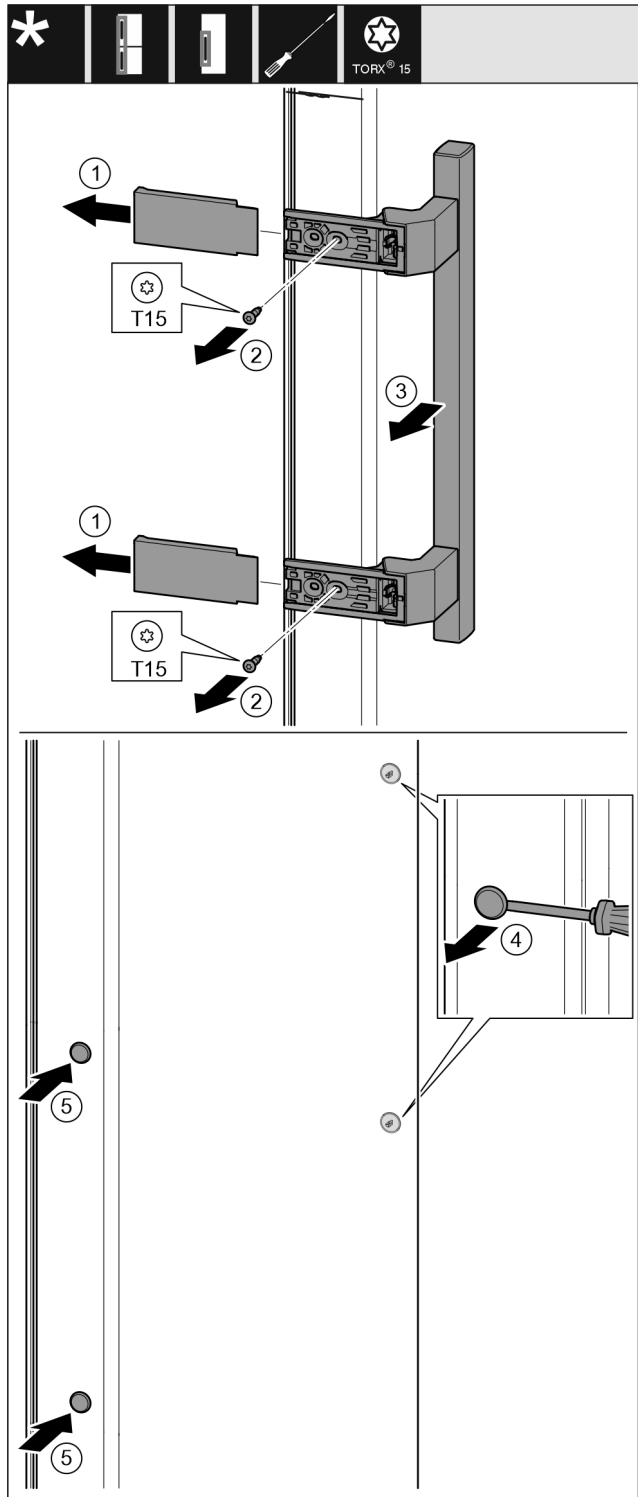

Fig. 39
- Pull off the cover. *Fig. 39 (1)*
- Remove the screws with a T15 screwdriver. *Fig. 39 (2)*
- Take off the handle. *Fig. 39 (3)*
- Carefully lift up the side plugs with a slotted screwdriver and pull them out. *Fig. 39 (4)*
- Insert the plugs again on the other side. *Fig. 39 (5)*